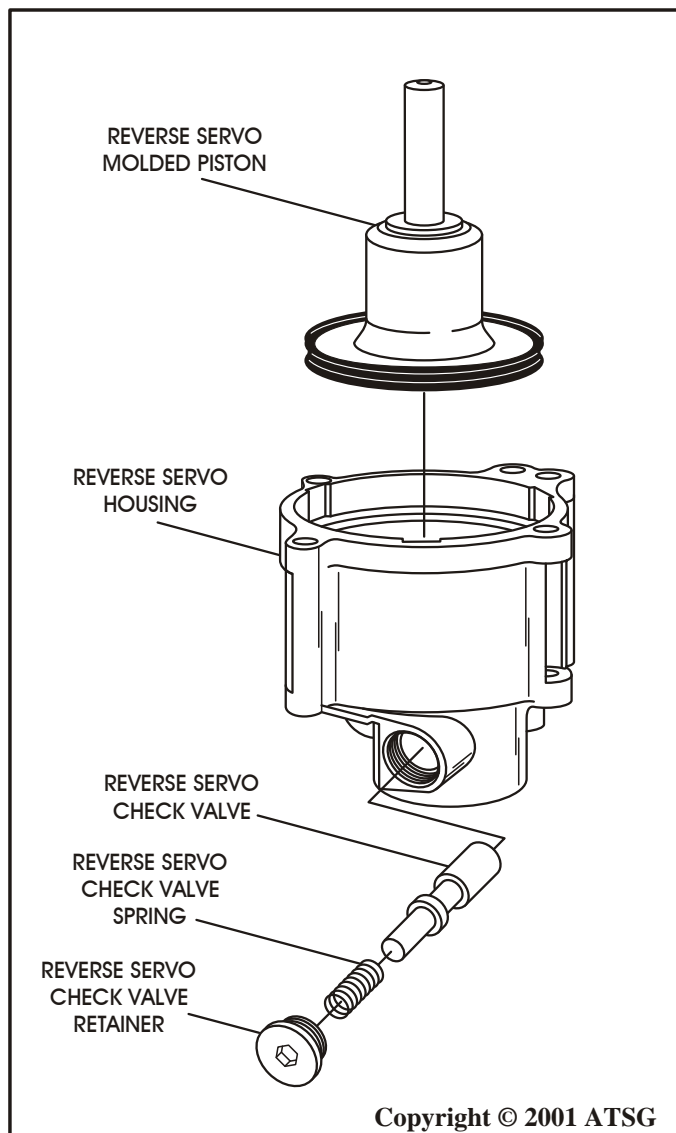

Figure 123
8. Lubricate the reverse servo check valve with Mercon V®, and install in housing, as shown in Figure 123, followed by the spring and the retainer.
9. Lubricate the reverse servo piston with a small amount of Trans-Jel®, and install into reverse servo housing, as shown in Figure 123.